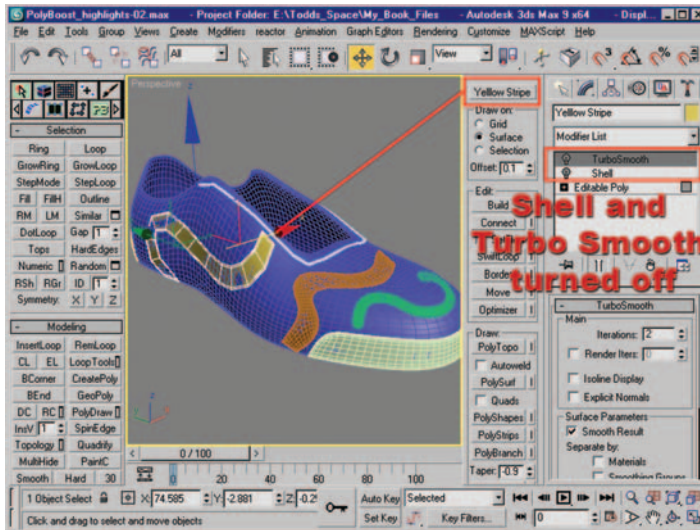

Figure 12.47 Yellow stripe picked with modifiers turned off.
- active, select the yellow stripe. Figure 12.47 shows the Pick button after selecting the yellow stripe, as well as the Shell and TurboSmooth modifiers turned off in the modifier stack.